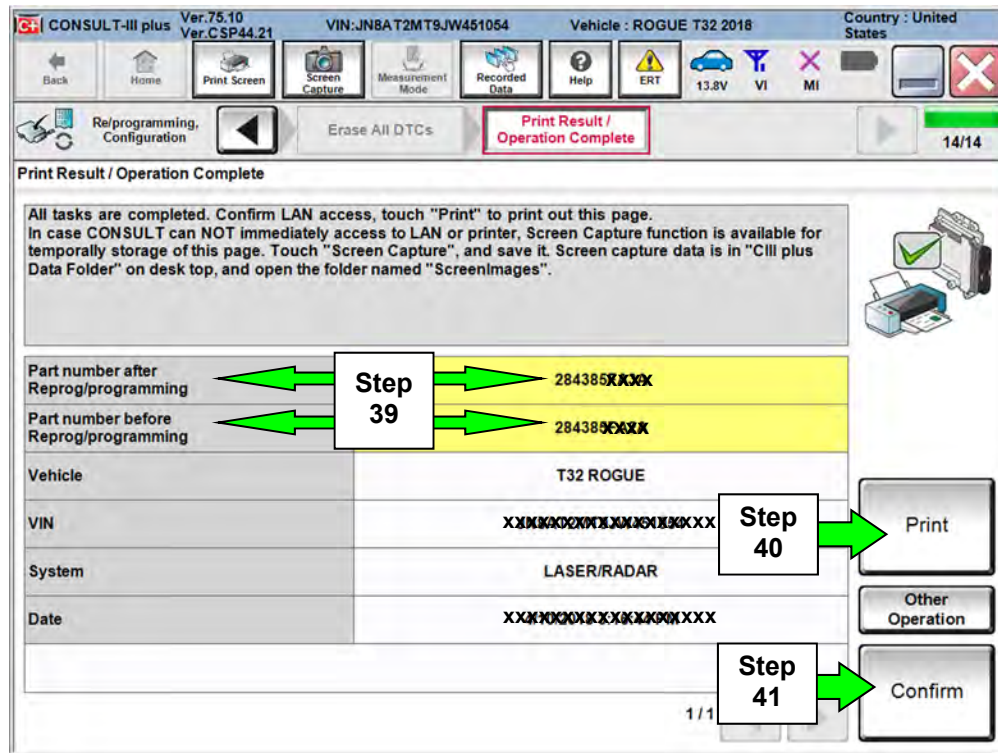

Figure 24
40. Print a copy of this screen (Figure 24) and attach it to the repair order.